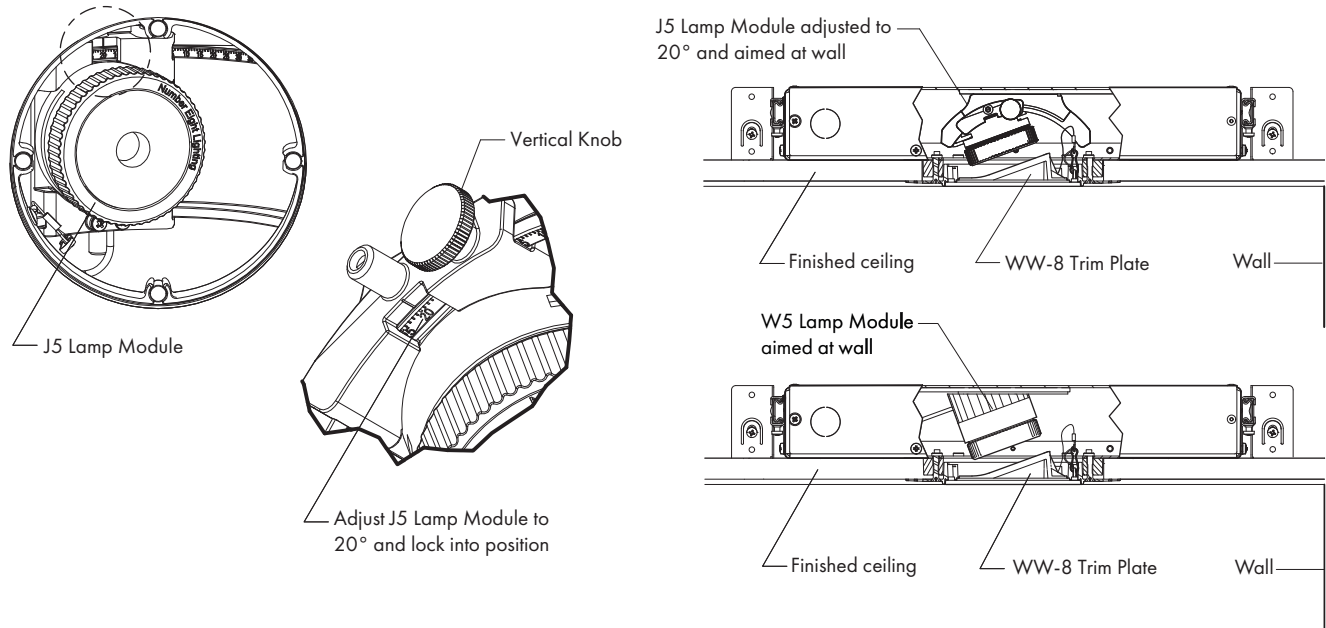

FIG 13.1 Orient Lamp Module with Wall
STEP 1 For J5 Lamp Module only: Loosen Vertical Lock Knob and adjust to 20° and lock in position - **FIG 13.1**.
STEP 2 Orient J5 or W5 Lamp Module toward wall - **FIG 13.1**. **Note:** For additional W5 orientation details, see Page 12, **FIG 12.1**